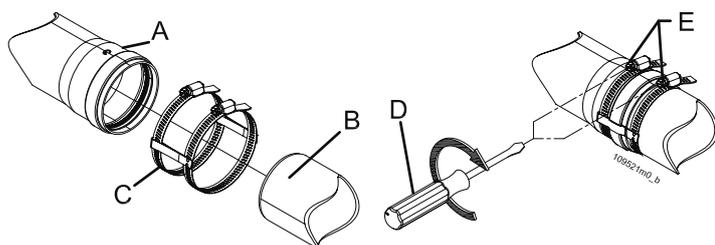

Figure 14-4 Securing exhaust and intake ducts
**ATTENTION !!!** Mechanically secure the joints between the various exhaust and intake duct components using fixing or equivalent systems. See figure 14-4.